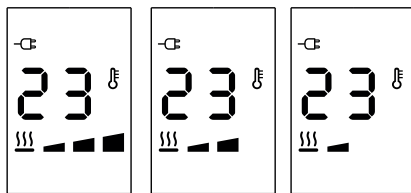

Fig. 2
Press button  (E) to set the required power level: MIN (); MED (); MAX () (see fig. 2). To select the desired temperature, press button + or - (C or D). By pushing the + or - button once, the temperature (shown on the display) will increase or decrease by 1°C (34°F). Keeping the + or - button depressed the value will increase or decrease rapidly.